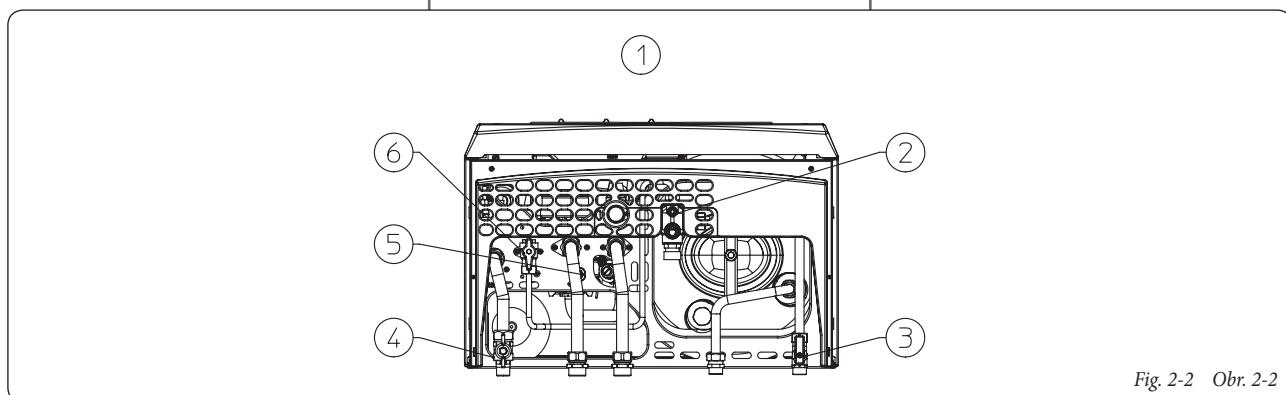

Fig. 2-2 Obr. 2-2
*If the pressure falls below 1 bar (with the circuit cool) restore normal pressure via the valve located at the bottom of the boiler (Fig. 2-2).*
To drain the boiler, use the special drain cock (Fig. 2-2)